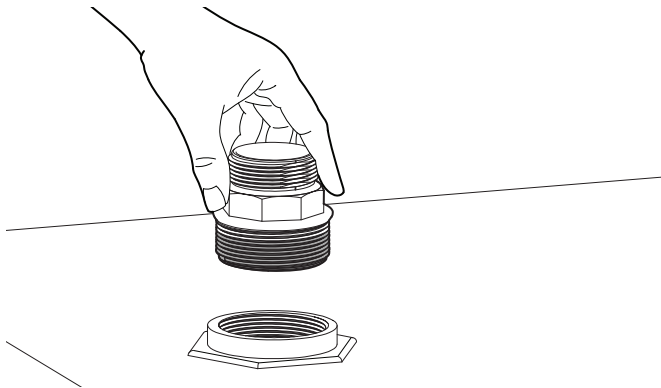

Figure 1
**NOTE:** For EZ-8 with Spin Collar, wrap both threaded ends of the tank adapter (B) 3 or 4 times with thread tape, and then insert tank adapter into tank (Figure 1).